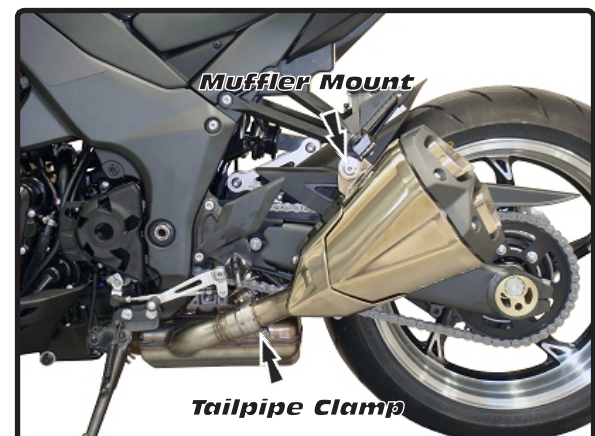

Fig. 3
- Loosen left side tailpipe clamp (Fig. 3).
- Remove left side muffler hanger bolt (Fig. 3).